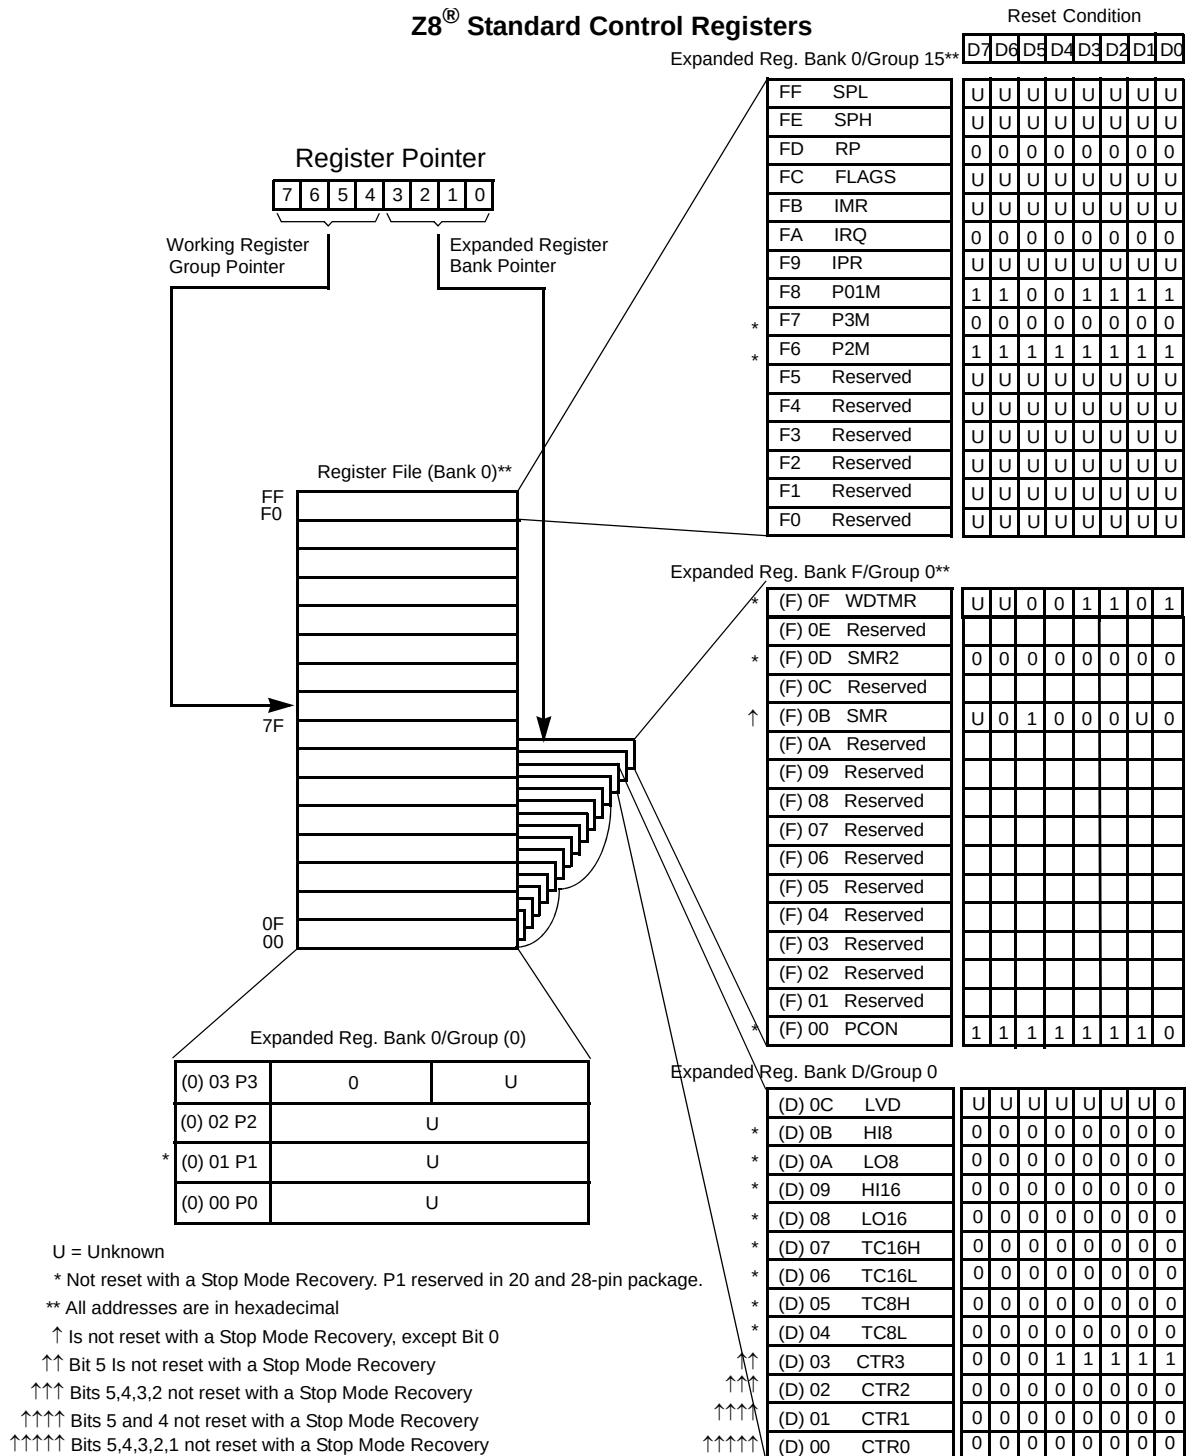

**Figure 12. Expanded Register File Architecture**
► **Note:** An expanded register bank is also referred to as an expanded register group (see Figure 12 on page 23).
**Example:** Crimzon ZLR32300 (see Figure 12 on page 23).